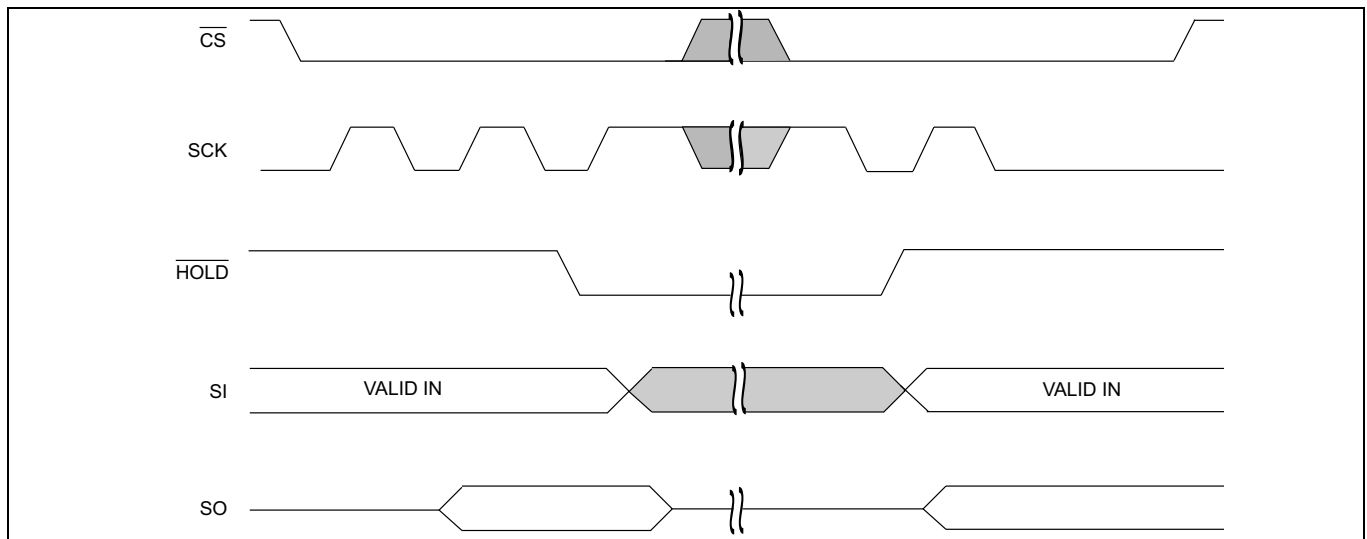

Figure 13 $\overline{\text{HOLD}}$ operation [2]
2. Figure 13 shows the $\overline{\text{HOLD}}$ operation for input mode and output mode.